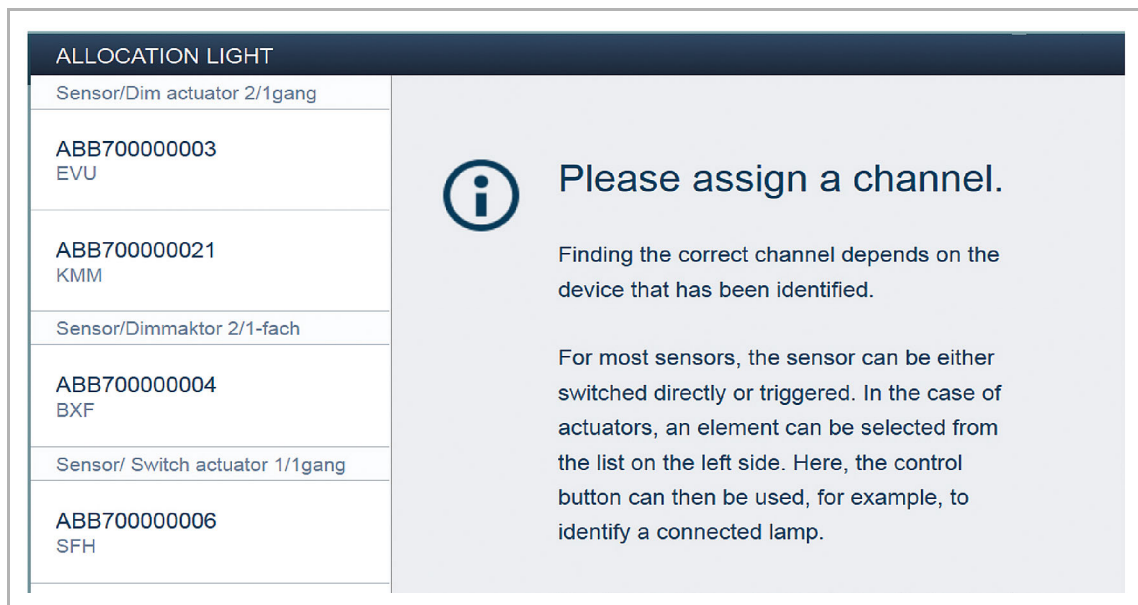

Fig. 29: Pop-up window with the suitable devices
- A pop-up window opens which lists all the devices that are connected to the bus and suitable for the selected application (e.g. all blind actuators, if the blind application has been selected, see Fig. 29).